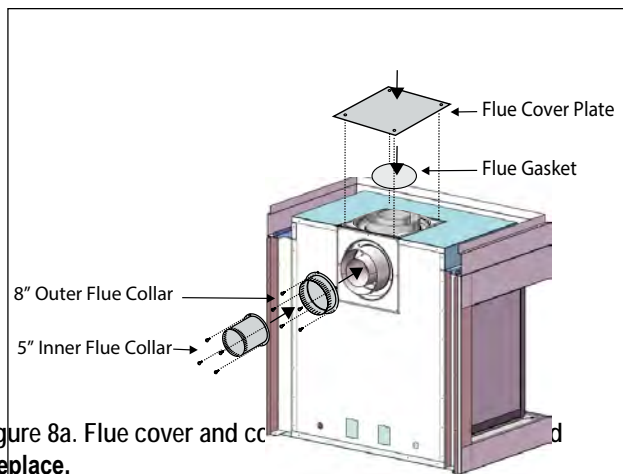

Figure 8a. Flue cover and collar installation, Top Vented fireplace.
3. Install the (removed) Rear flue cover and gasket material, to the Top vent outlet. Fasten the cover with included hardware, as illustrated Figure 8a.
4. Install the (5" and 8") collars to the rear vent outlet using the included hardware, as illustrated Figure 8a.